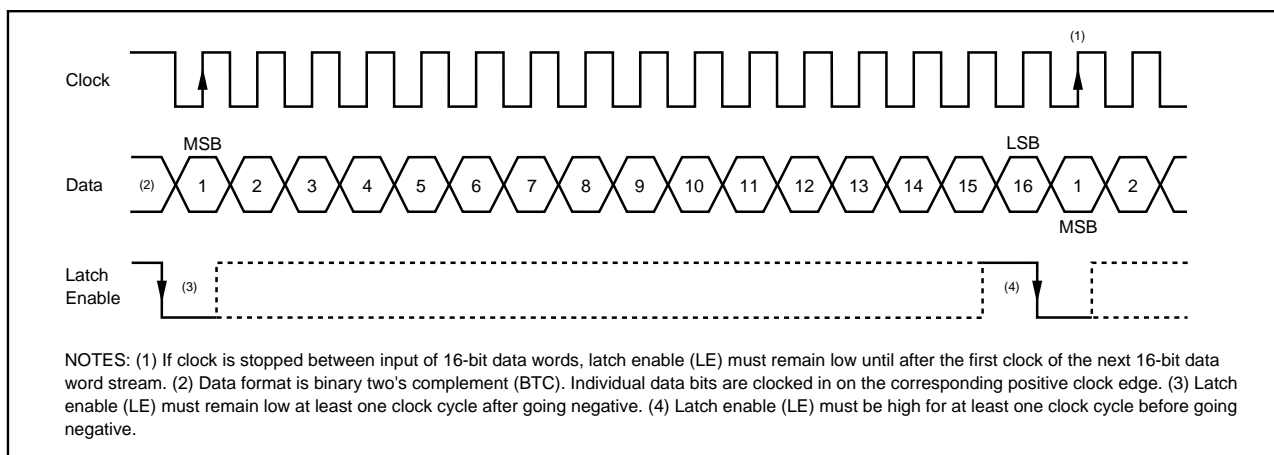
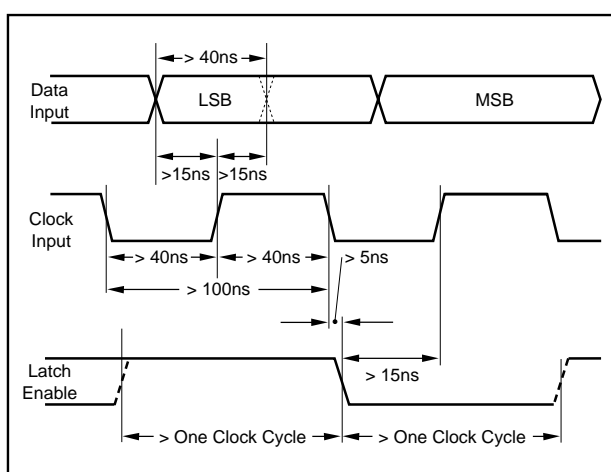

FIGURE 7. Input Timing Diagram.
FIGURE 8. Input Timing Relationships.
Figure 7 and 8 refer to the input timing required to interface the inputs of PCM56 to a serial input data stream. Serial data is accepted in Binary Two's Complement (BTC) with the MSB being loaded first. Data is clocked in on positive going clock (CLK) edges and is latched into the DAC input register on negative going latch enable (LE) edges.
Figure 7 refers to the general input format required for the PCM56. Figure 8 shows the specific relationships between the various signals and their timing constraints.